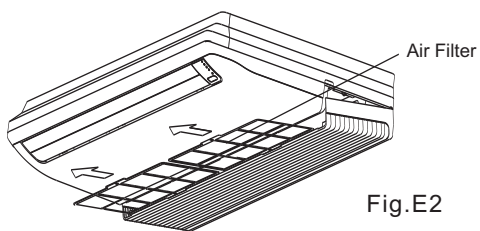

Fig.E2
2. Take out the air filter(see Fig.E2).
4. Re-install the air filter in the reverse order of Fig.E2.